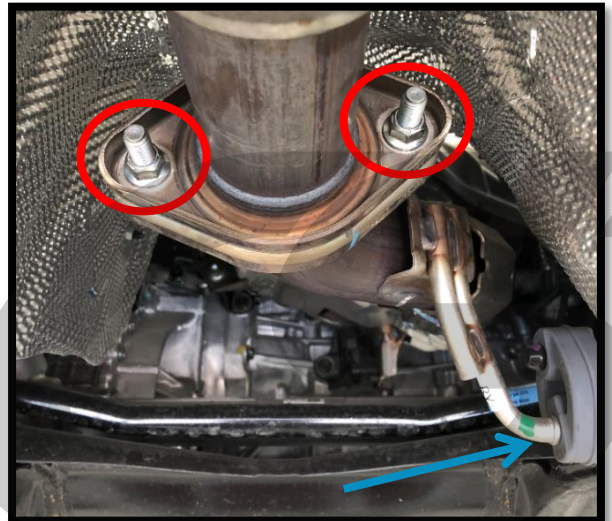

Figure 3b
- e) Locate the end of the OEM header. Remove the two 14mm nuts that connect it to the exhaust. Shown circled in red in Figure 3b.
- f) Remove the rubber hanger from the end of the OEM header. Shown with the blue arrow in Figure 3b. Exhaust hanger pliers are the easiest tool to use for this.